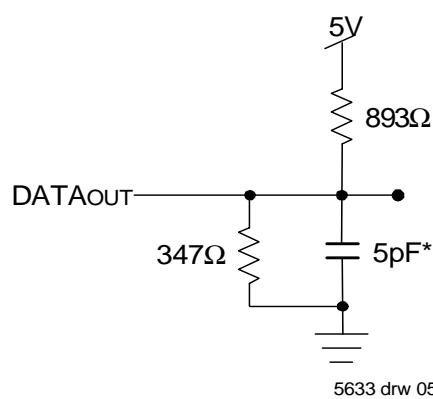

Figure 2. Output Test Load
- Transition is measured 0mV from Low or High-impedance voltage with the Output Test Load (Figure 2). This parameter is guaranteed by device characterization, but is not production tested.
1. Transition is measured 0mV from Low or High-impedance voltage with the Output Test Load (Figure 2).
3. Transition is measured 0mV from Low or High-impedance voltage with the Output Test Load (Figure 2).
- Transition is measured 0mV from Low or High-impedance voltage with the Output Test Load (Figure 2).